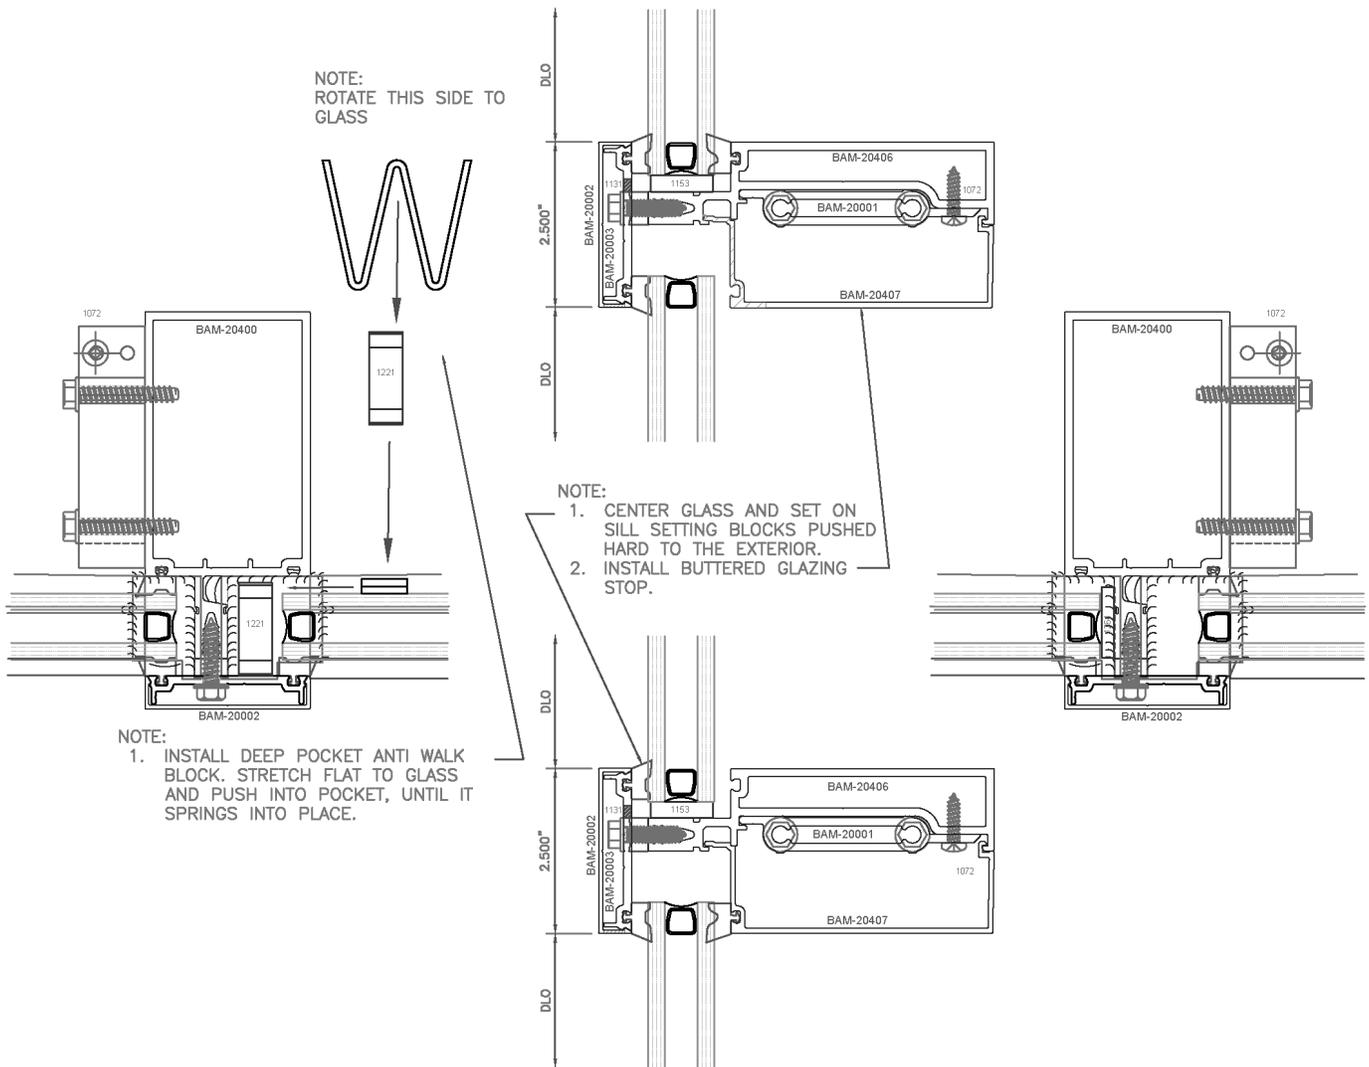

FIGURE A.2
2. Straigten the glass and lift it to avoid moving the setting blocks and center the glass. Push it firmly against the exterior gasket and set it on the blocks. (FIGURE A.2)